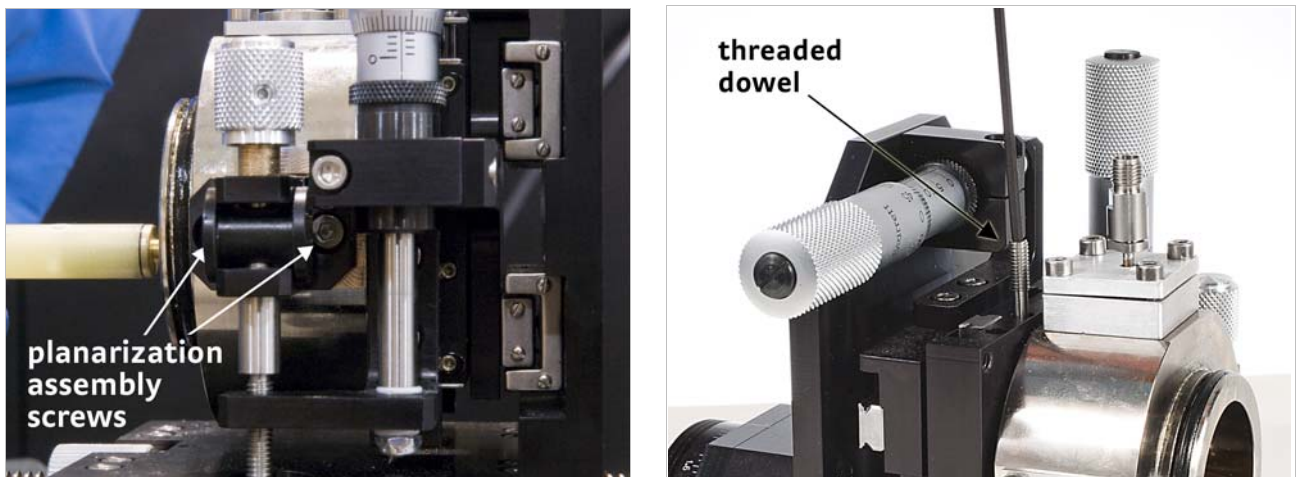

FIGURE 5-13 *Left: Loosen the two screws holding the planarization assembly to the probe arm base; Right: Pull out the threaded dowels*
5. If you have a planarization assembly attached to the probe arm, loosen the two M3 screws that hold the planarization assembly to the arm base. You may need to turn the z-axis micrometer to access the screw that is behind the micrometer (FIGURE 5-13). The planarization assembly will remain attached to the stage.
The probe arm base is loosely secured to the z-axis stage with two stainless steel threaded dowels. Unscrew the threaded dowels, and then pull both dowels out (FIGURE 5-13). Access to the threaded dowels may be to the side of the z-axis stage as shown in FIGURE 5-13 or to the top of the z-axis stage.
2. Insert the two threaded dowels into the z-axis stage (FIGURE 5-13). Tighten until snug.
Access to the threaded dowels may be to the side of the z-axis stage as shown in FIGURE 5-13 or to the top of the z-axis stage.